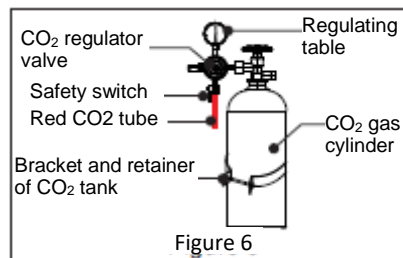

Figure 6
c) Using the wrench, tighten the CO₂ regulator table valve with the hex nut port to the gas outlet of the CO₂ tank (See Figure 6).